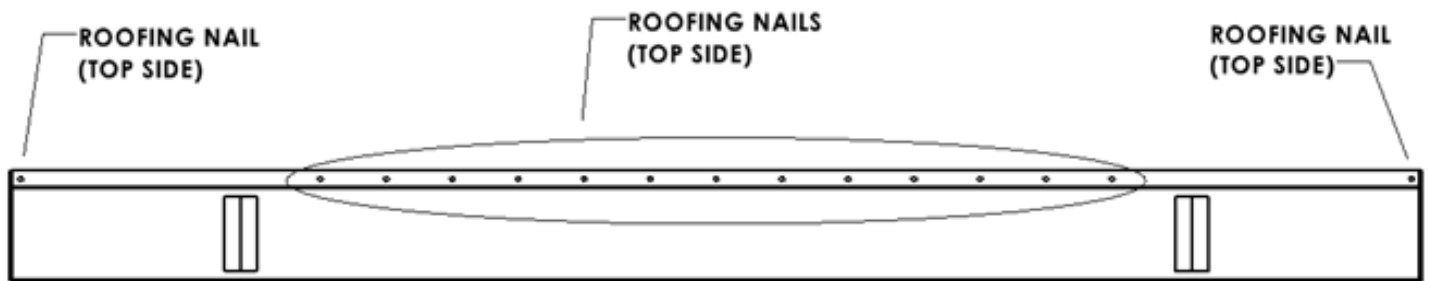
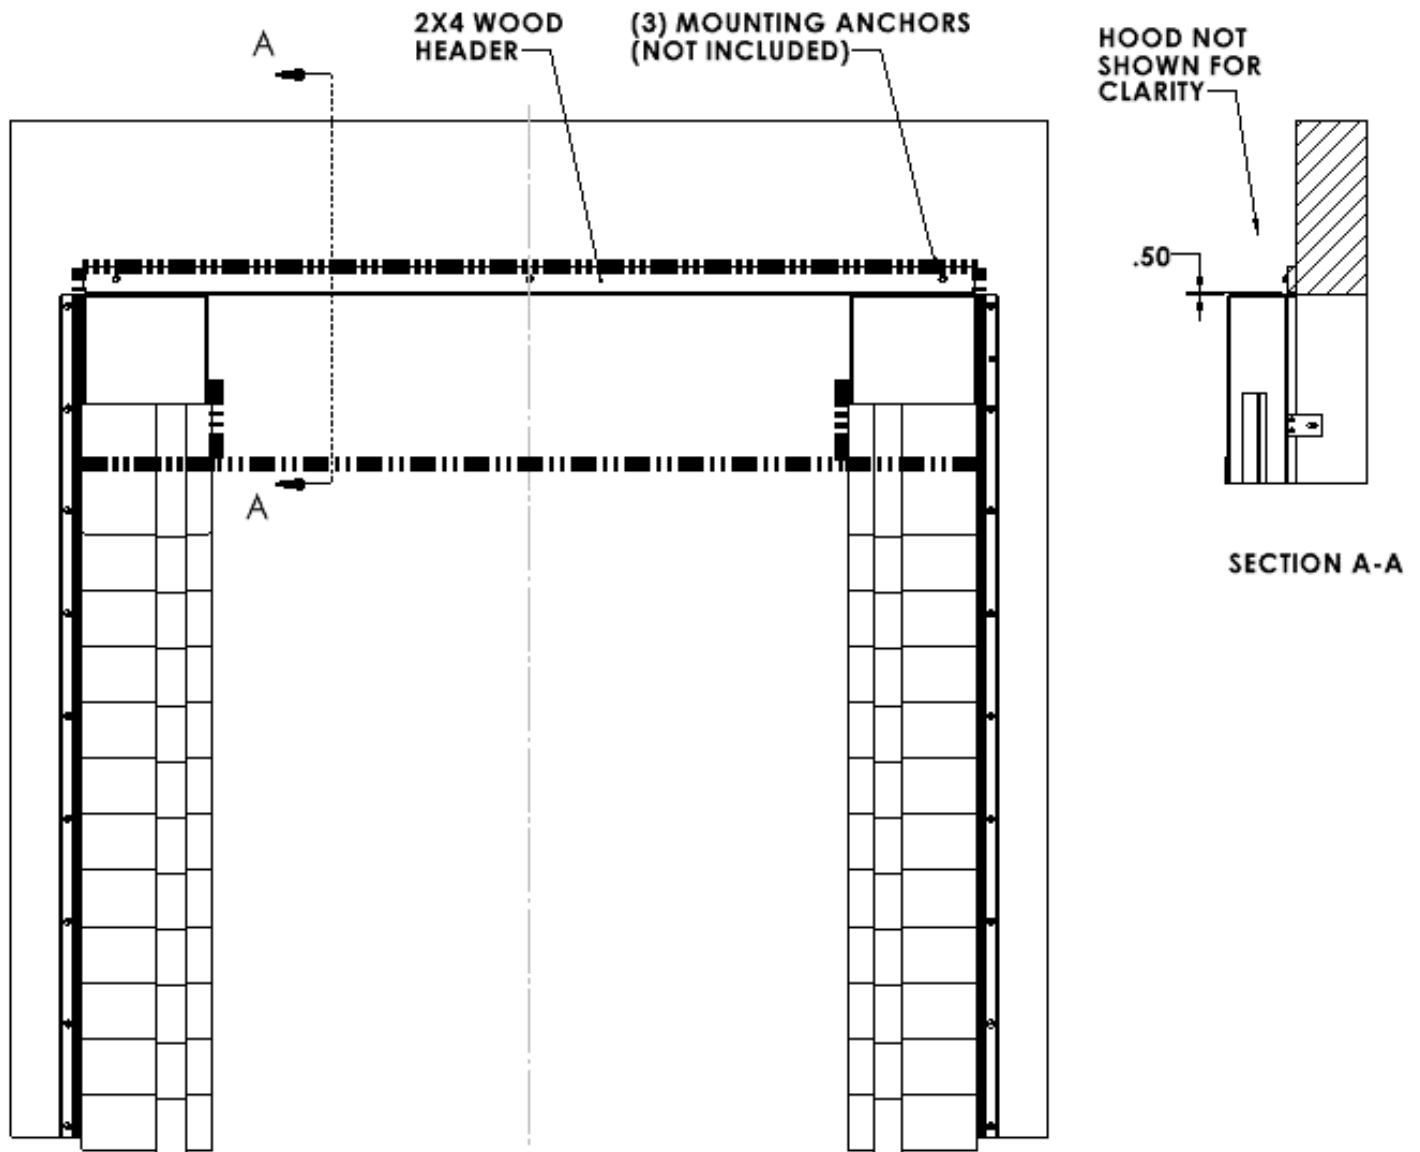

FIGURE 10
FIGURE 11
7. MOUNT LEFT SIDE PAD (C) TO WALL: Same process as Right-Side Pad mounting.
- a. Position the 2x4 Header (F) on the inside top section of the Hood (E) so the 4" back face of the 2x4 Header is flush with the outside edge of the hood's top lip.
- b. Secure the 2x4 Header (F) to the Hood (E) with a Roofing Nail (J) on the right end of the Hood. Stretch the Hood over to the left end of the 2x4 Header, and then fasten it to the 2x4 Header with a Roofing Nail on the left end (Figure 10).
- c. Fasten the 2x4 Header (F) to the Hood (E) with Roofing Nails (J) in the center top side of the Hood. Secure the first Roofing Nail 30" inward from the left end of the Hood and then secure the 2nd Roofing Nail 30" inward from the right end of the Hood. Then secure the rest of the Roofing Nails 6" apart in the middle as shown (Figure 10).
- d. Insert the Steel Tube (G) into the Hood Pocket.
- Position the Hood Assembly horizontally by aligning the center mark on the Hood Assembly (Step 8) with the center marking on the building (Step 1). The Hood Assembly will be centered across the door opening. Position the bottom of the 2x4 Header (F) 1/2 inch above the top of the side pads (Figure 11).
- Use (3) anchors provided by the contractor, to attach the Hood Assembly to the building. The mounting anchors will mount through the 2x4 Header (F) into the building; Anchors should be either 1/2" or 3/8" in diameter and 3" long. Position one anchor in the center of the door opening and place the other two anchors near each end (Figure 11).